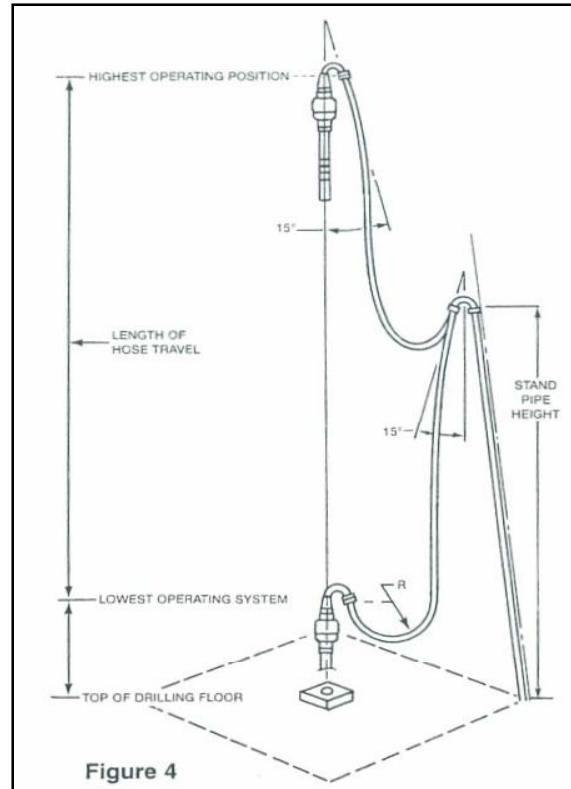

Figure 4
1. Use the following equation to determine the recommended standpipe height (see Figure 4).